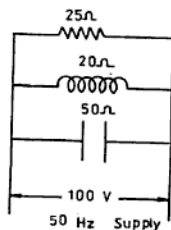

Fig. NE 11.38
- 11.38 A resistance of 25Ω , and inductive reactance of 20Ω and a capacitive reactance of 50Ω are connected in parallel to each other and across a 100 V , 50 Hz supply as shown in Fig NE 11.38. Calculate: